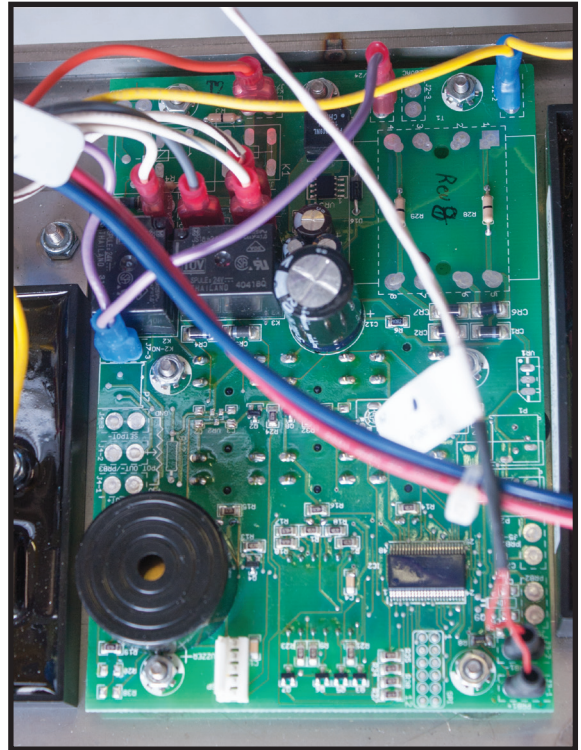

Fig 7.2A
4. Remove nuts and washers securing board to panel, remove panel (Fig 7.2A).